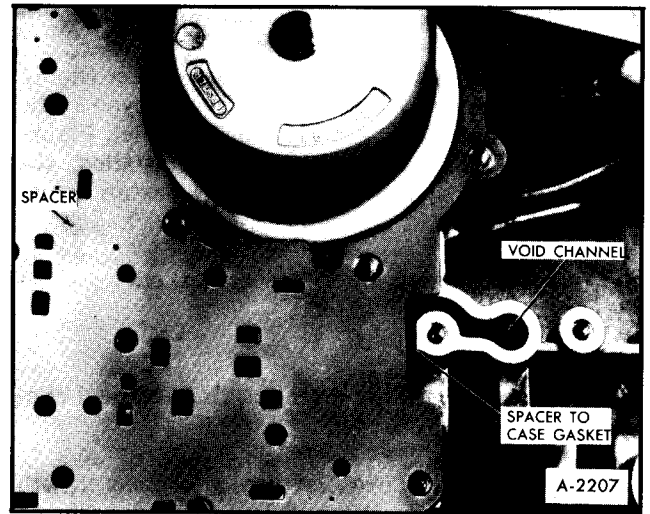

Figure 98—Valve Body Spacer-to-Case Gasket
**NOTE:** Valve body spacer to case gasket should extend approximately 1/8 inch beyond the spacer plate, over the void case channel, Figure 98. If service gaskets are being installed, the valve body spacer to case gasket has an extension which will cover the void case channel.